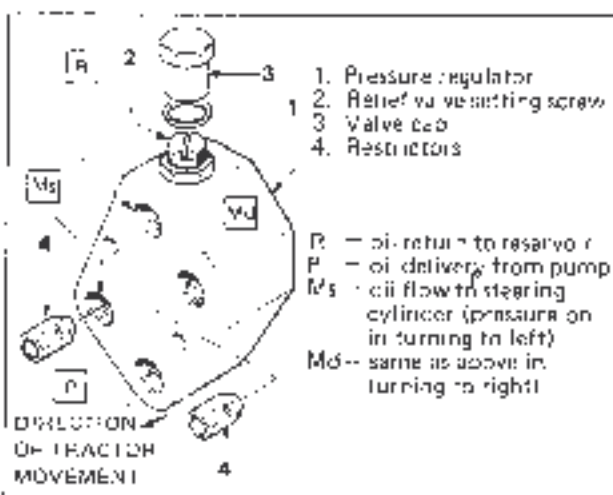
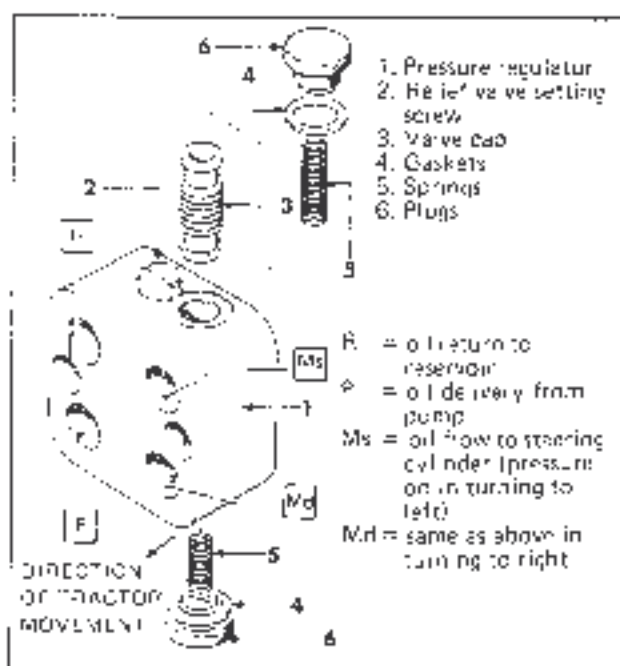

Figure 33. Setting of the hydraulic power steering valve (example A).
Figure 34. Setting of the hydraulic power steering valve (example B).
(see fig. 33 and fig. 34)
- Make sure pressure gauge reading is 100 to 110 kgf/cm². If reading is different, adjust setting through valve (fig. 33 or fig. 34, item 1) of the hydraulic power steering unit, by screwing on or off adjusting screw (2) after removing valve cap (3).
a. Incorrect steering movement	<ol style="list-style-type: none">1. Air in the steering jacks. Bleed the system.2. Jack packings are faulty. Replace all jack seals3. Hydraulic steering valve dirty. Where valve of fig. 33 is fitted, disassemble and clean restrictors. Where valve of fig. 34 is provided, disassemble and clean valve piston and verify that springs are not broken.